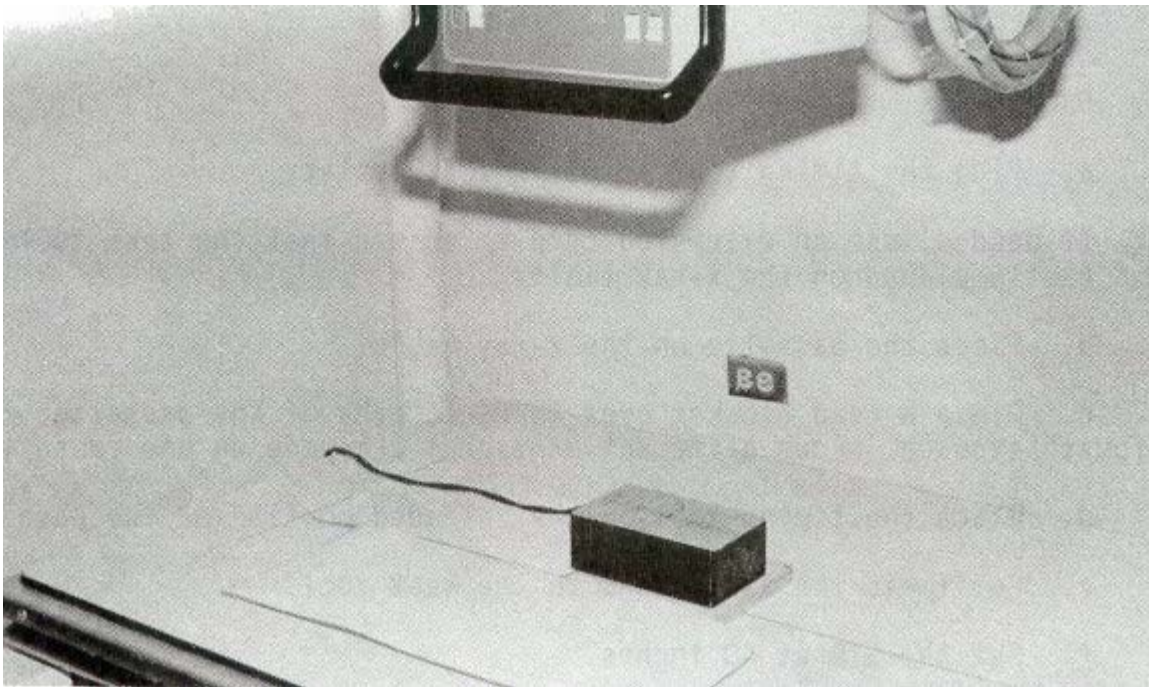

Figure 4-8. Second exposure.
- (b) 100 mA at 1/10 second (see figure 4-8).